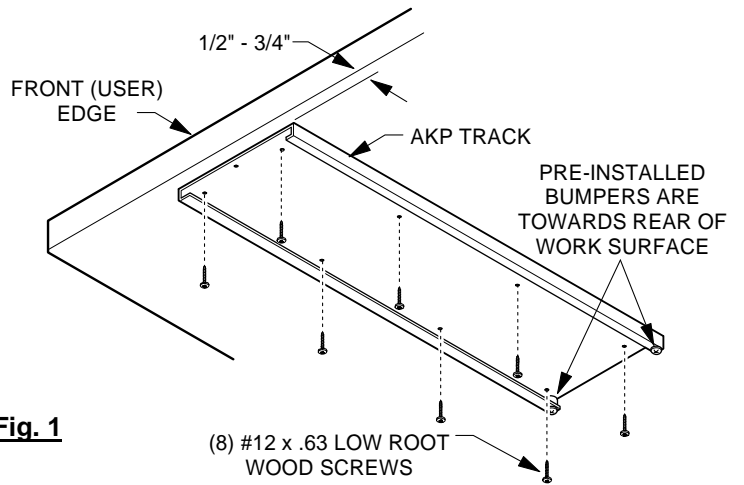

Fig. 1
1. Mount AKP track to underside of work surface using eight (8) #12 x .63 low root wood screws provided (**Fig. 1**). Track should be positioned so that the pre-installed bumpers are towards the rear of the work surface. If work surface is not pre-drilled, position front edge of track 1/2" in from front edge of work surface and use holes in track as template to drill holes. Drill eight (8) holes, 1/8" dia. x 5/8" deep using care not to drill through top of work surface.